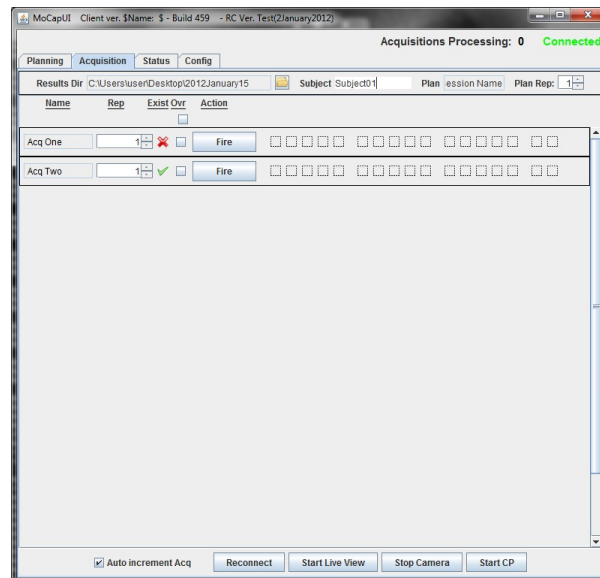

Figure 31: Red 'X' indicates that the current trial repetition number corresponds to data already on disk.
- If the acquisition repetition number corresponds to existing data, a red "X" will show, as seen in figure 31. If "Fire" is selected, a dialog box gives the user one last chance to preserve existing data, as seen in figure 32.